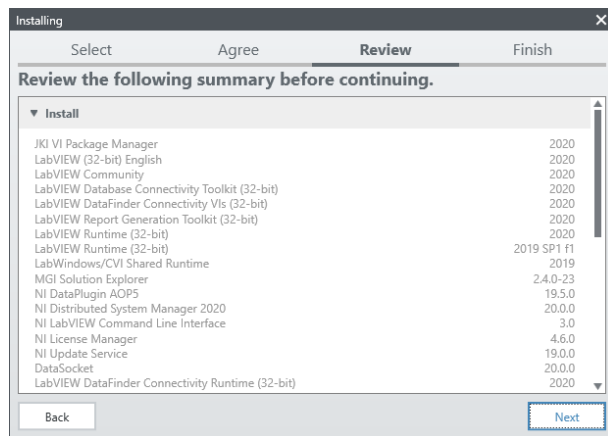

Figure 2-17 Final check for installation components
10. You will be asked once more if all the installation components are correct. Click Next to begin the installation (Figure 2-17).